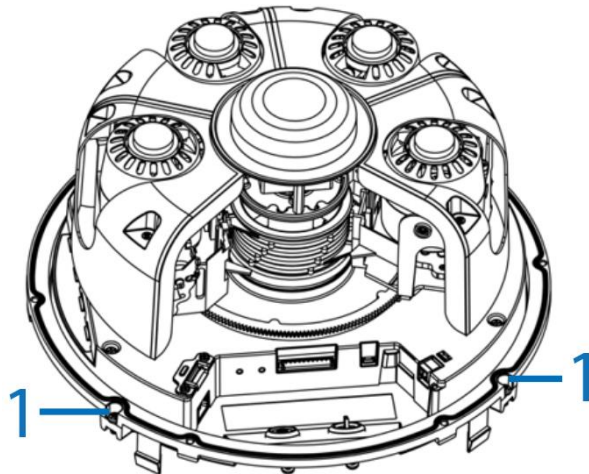

Figure 4
2. Use the T20 Torx wrench to remove the two screws (1) (Figure 4) on the camera lens module and remove the mounting plate (4) (Figure 1) from the camera lens module.